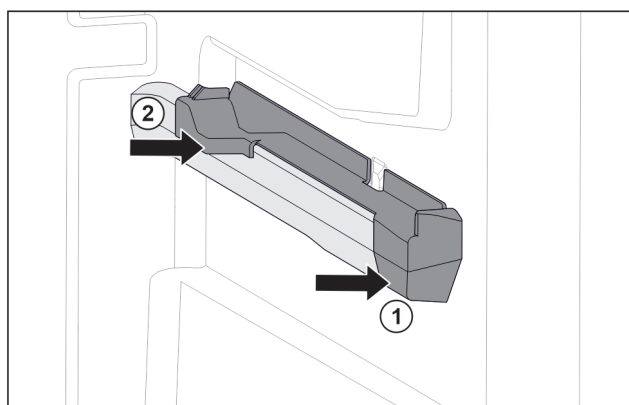

Fig. 132 Attachment on the right moulded rib
- Position attachment on moulded rib at the front. Fig. 132 (1)
- Press on attachment at the back. Fig. 132 (2)